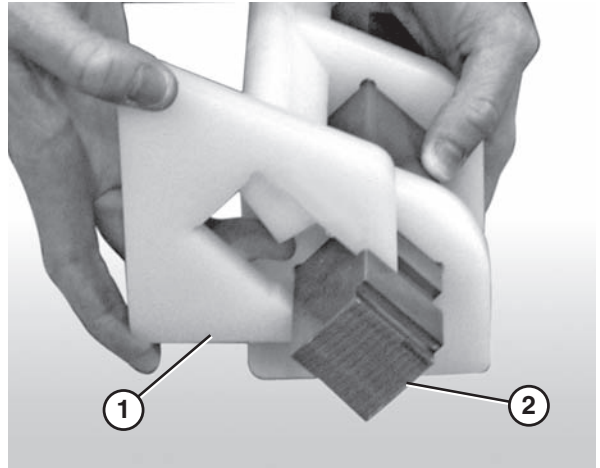

Figure 67
3. Attach the nose bar tracking pucks (**Figure 67, item 1**) to the nose bar drive post (**Figure 67, item 2**).